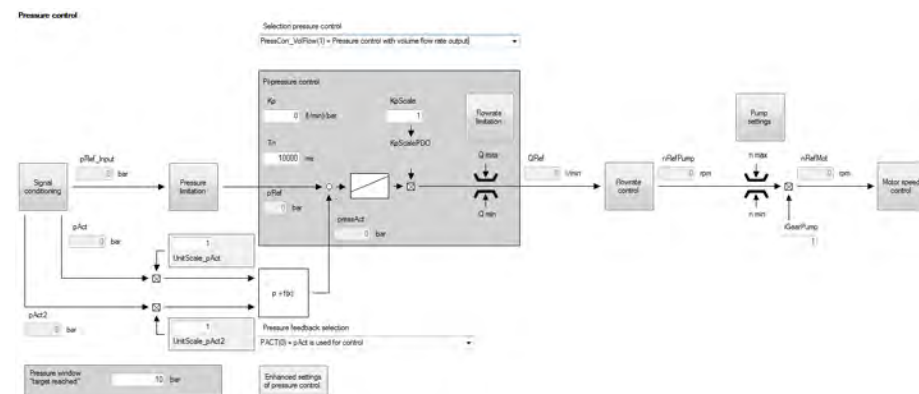

Fig. 7.70: "Pressure control with volumetric flow rate output" screen
The selection PressCon_VolFlow(2) has a volumetric flow rate output in l/min and an underlying volume flow control which takes the displacement volume of the pump into account (see Fig. 7.70: “Pressure control with volumetric flow rate output” screen). This can be helpful for pumps with a variable displacement volume, as this means the control circuit gain remains unchanged and the controller parameters do not need to be adjusted. In addition, the unit of gain changes to (l/min)/bar. This unit then applies to the pressure limiting controller, which influences the manipulated variable in the various control modes.